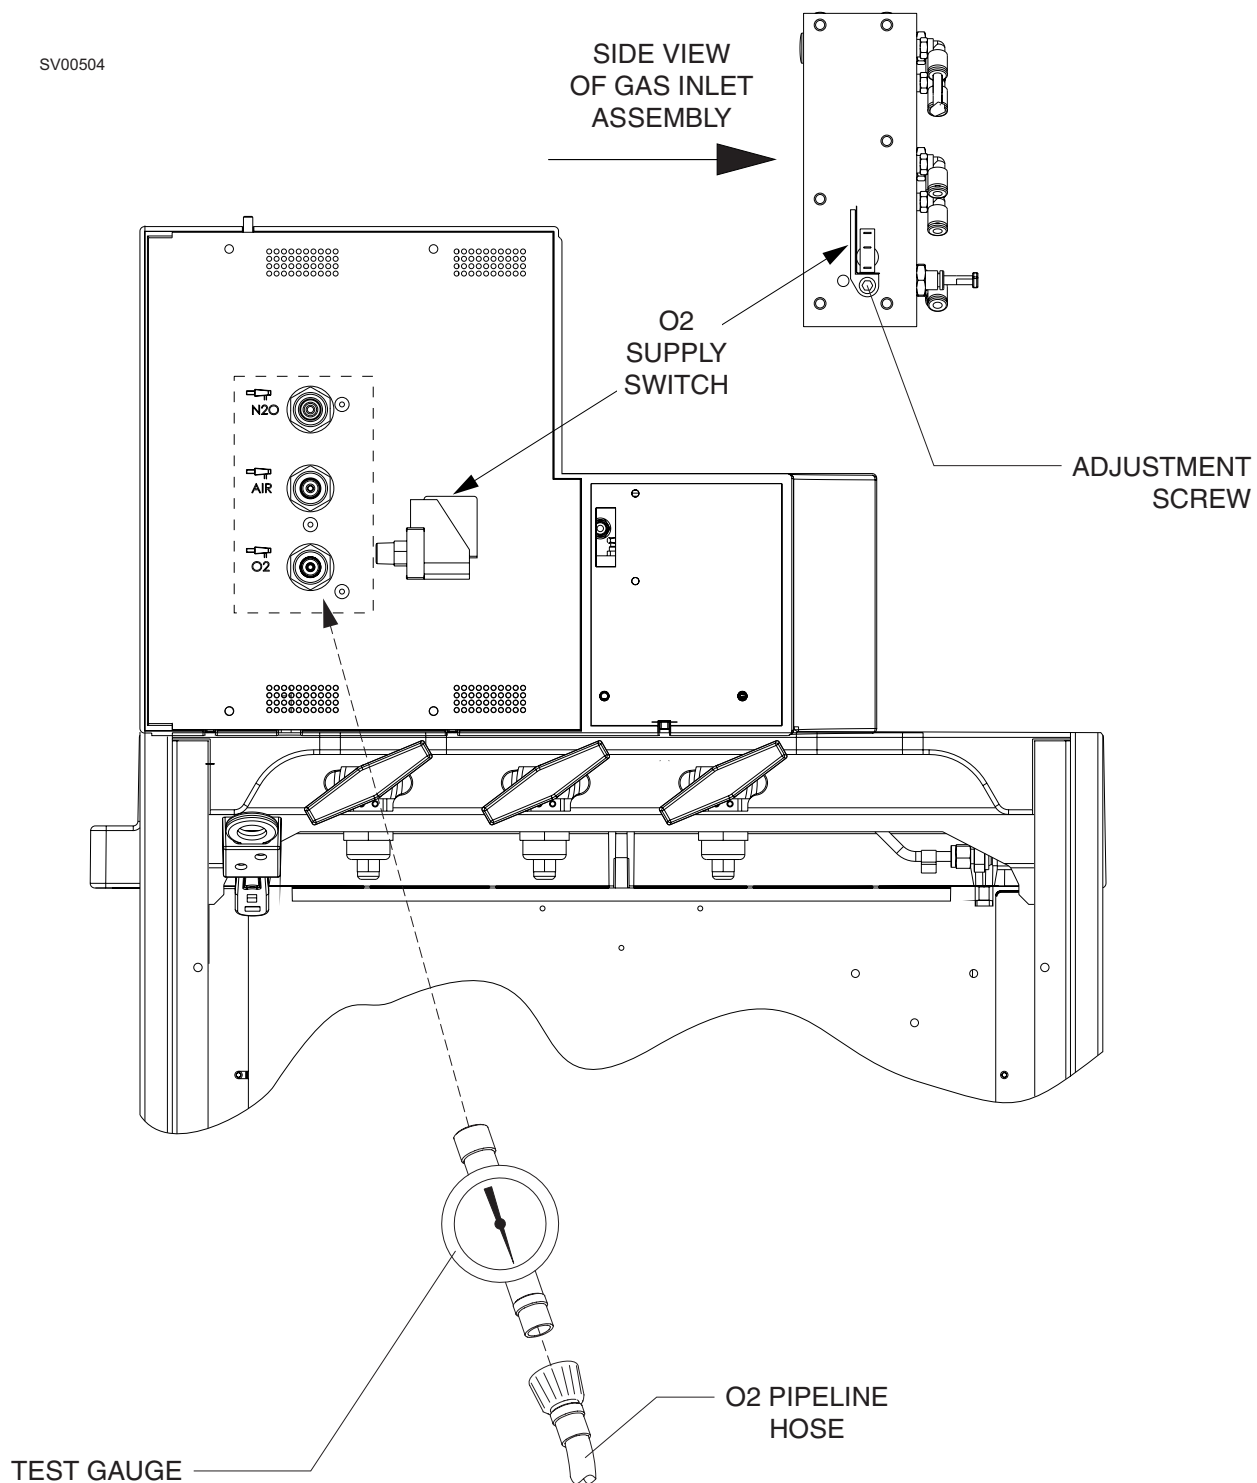

Figure 6-3. Oxygen Supply Pressure Alarm Switch Adjustment
- 6.3.13 If the alarm activates when the pressure is below 16 psi or above 24 psi, turn the adjustment set screw (see Figure 6-3.); repeat the test and adjust as necessary to bring the set point into the correct range.